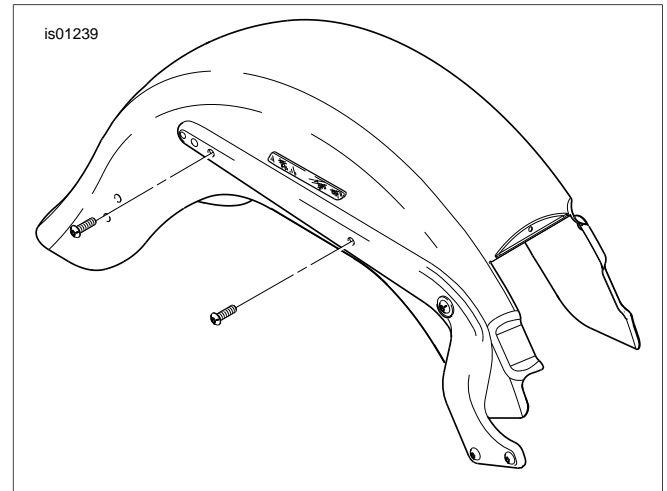

Figure 4. Remove and Discard Stock Screws
1. See Figure 4. Remove and discard the two stock fender attaching screws as shown, on one side of the fender.
1. **If docking hardware WAS NOT previously installed:** See Figure 4. Remove and discard the two stock fender attaching screws as shown, on one side of the fender.